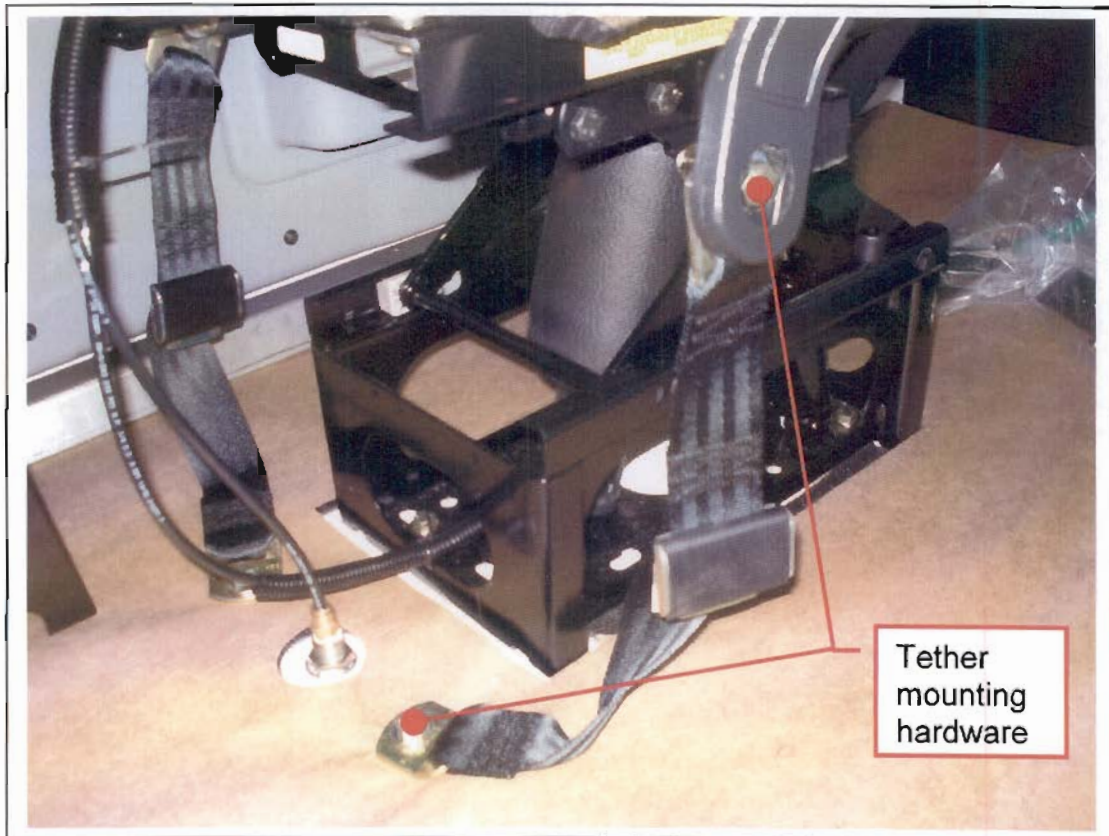

Figure 3
4. Remove existing tethers by removing mounting hardware shown in figure 3. Discard locknuts.